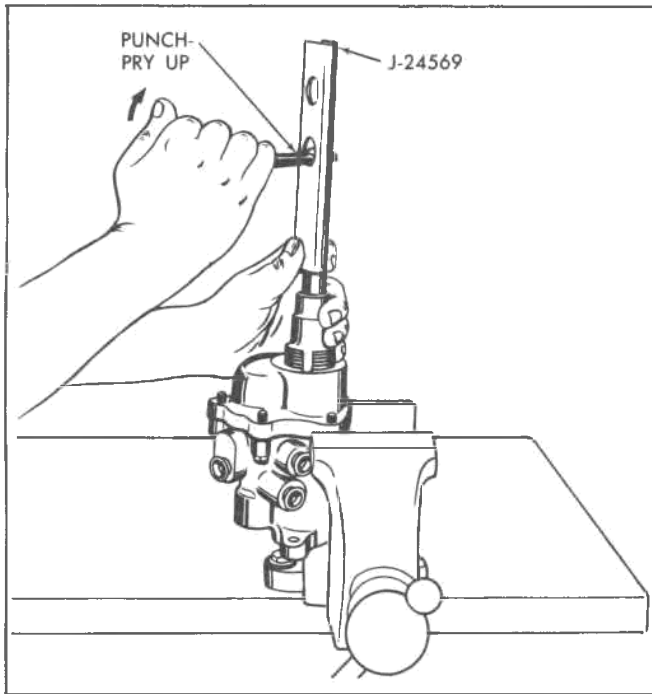

Fig. 5-3E--Removing Booster Pedal Rod (Typical)
3. Place Tool J-24569 around the pedal rod and resting on the input rod end as shown in Figure 5-3E.